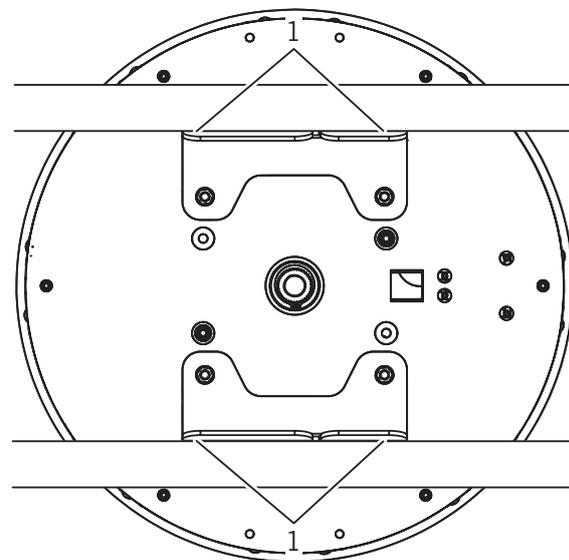

Fig. 94 Lowering the operator
Loosen the mounting screws (Fig. 94/1) of the operator slightly and uniformly and lower the operator carefully onto the bookfold sleeve.
16. Tighten the mounting screws of the operator brackets (Fig. 94/1).